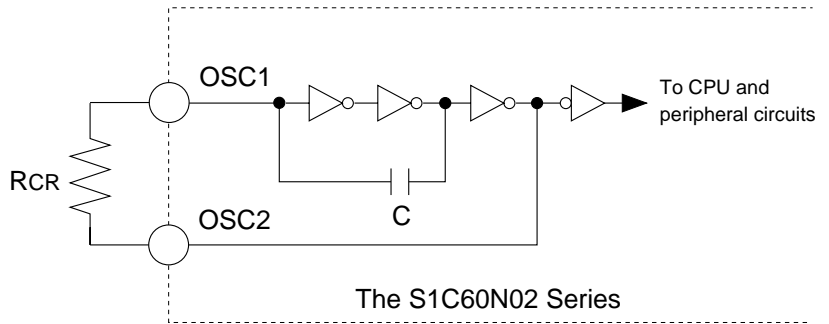

Fig. 4.2.2
For the S1C60N02 Series, CR oscillation circuit (typ. 65 kHz) may be selected by a mask option. Figure 4.2.2 is the block diagram of the CR oscillation circuit.
As Figure 4.2.2 indicates, the CR oscillation circuit can be configured simply by connecting the register (RCR) between pins OSC1 and OSC2 since capacity (C) is built-in. See Chapter 6, "ELECTRICAL CHARACTERISTICS" for RCR value.